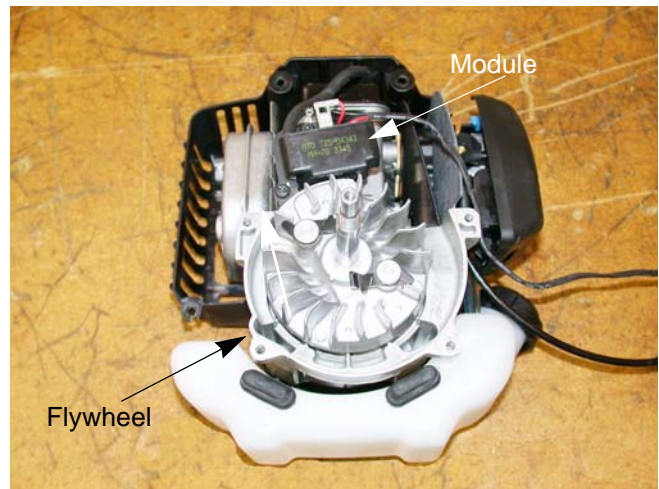

Figure 4.5
2. Disconnect the two wires from the module. See Figure 4.5.